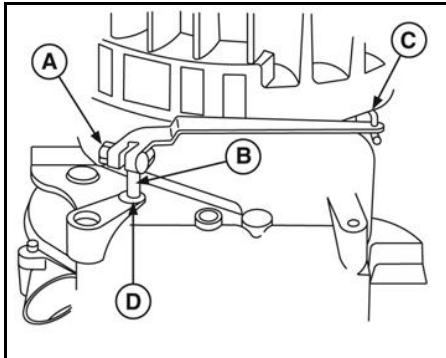

Figure 10
2. Loosen governor lever nut (A, Figure 10).
3. Slide lever off governor crank (B) and disconnect from governor link (C).
4. Remove push nut and washer (D) from governor crank. Remove any burrs from governor crank, and then remove crank from inside cylinder.